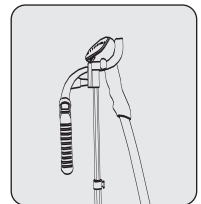

Figure4
7. Hang the Steam Nozzle on the Steam Nozzle Holder as shown in Figure 4.